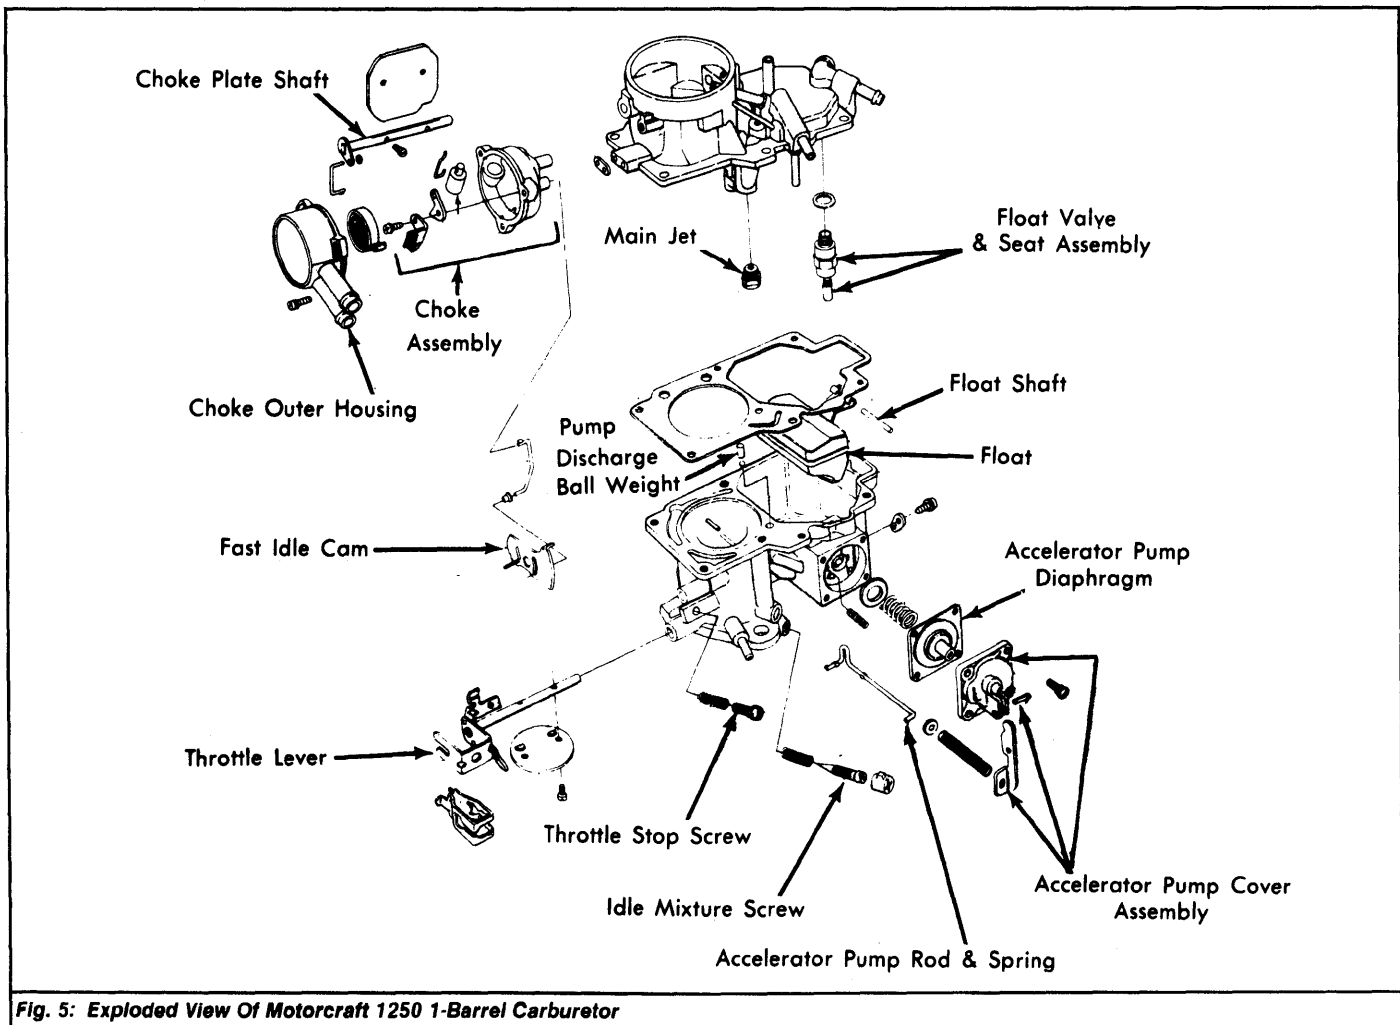

Fig. 5: Exploded View Of Motorcraft 1250 1-Barrel Carburetor
- 1) Remove shoulder screw retaining fast idle cam and rod assembly to lower body. See Fig. 5. Remove 6 screws holding upper body to lower body and carefully lift off upper body. Gasket should come away with upper body.